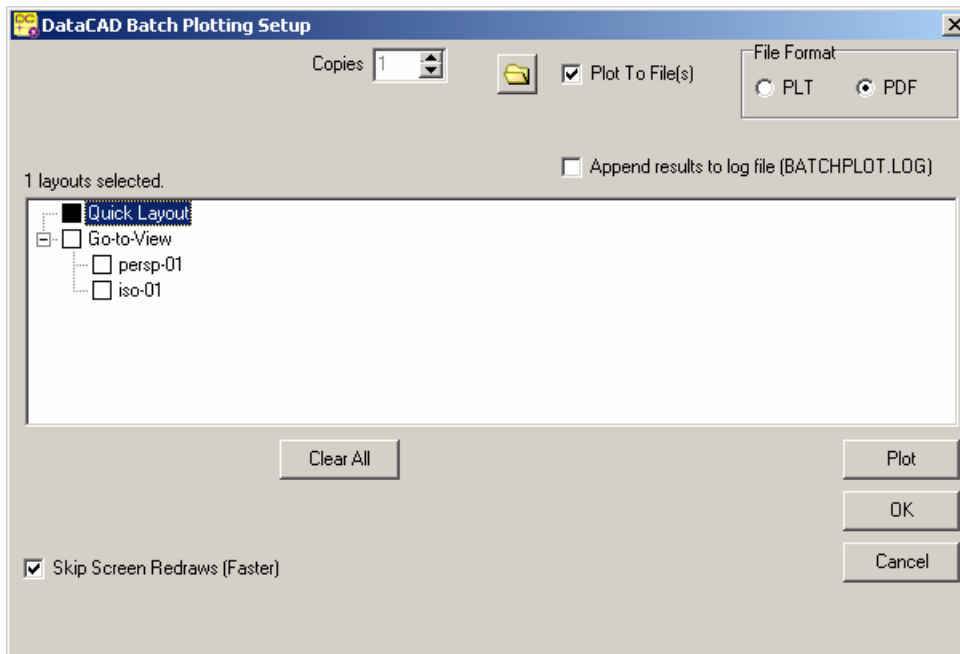

Figure 19.5: The Batch Plotting Setup dialog box
1. Check Plot to Files in the Batch Plotting Setup dialog box (see Figure19.5).